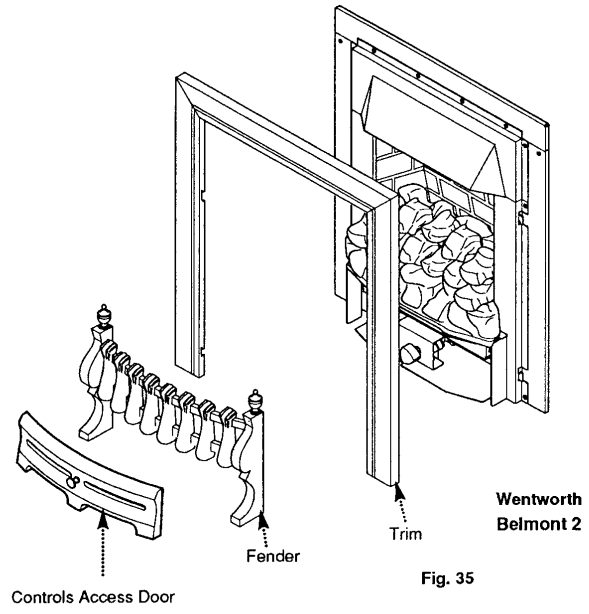

Fig. 35
2. Remove the controls access door and fender assembly (Fig. 35).
3. Remove the trim by lifting outwards and upwards over slots (Fig. 35).